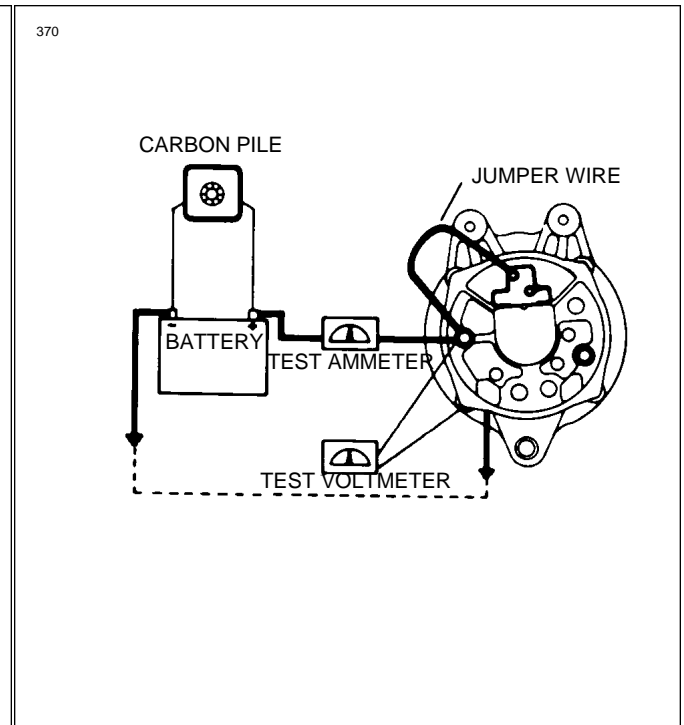

Figure 11-14 Testing Alternator
a. Wiring connections for bench testing the alternator are shown in Figure 11-14. Refer to the Alternator Service Test Specification paragraph for output test figures. Adjust the carbon pile if necessary, to obtain the specified voltage. The alternator is not to be run more than 2 minutes for each test point.
11-16 ALTERNATOR SERVICE TEST SPECIFICATIONS. Refer to Figure 11-14. for test circuit used. Prestolite specifications for the 14-volt alternators installed as original equipment are as follows: